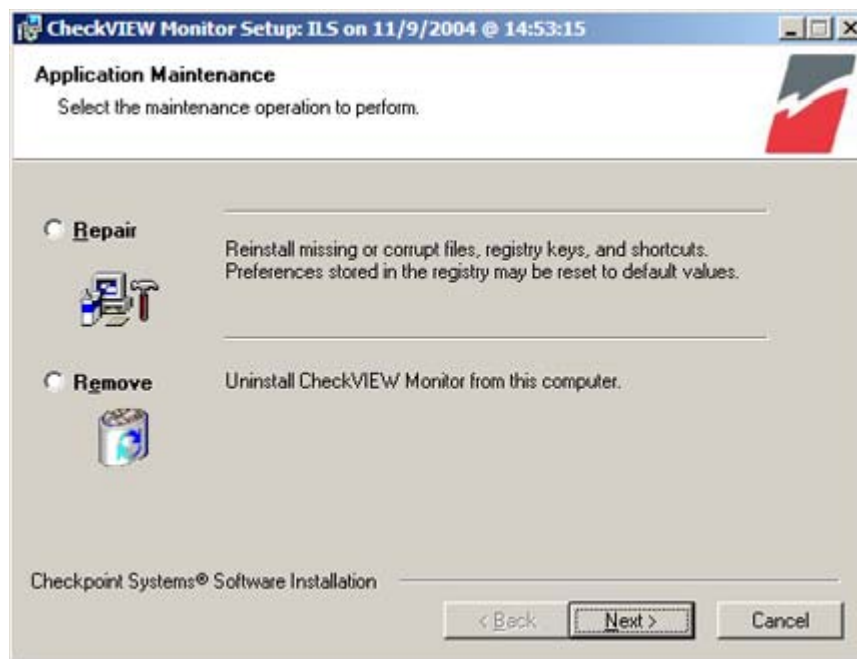

Figure 7.6 Application Maintenance window
- 1 Insert the **CheckVIEW CD-ROM** into the computer's CD-ROM drive. If CheckVIEW is already installed, the Application Maintenance window displays (Figure 7.6).